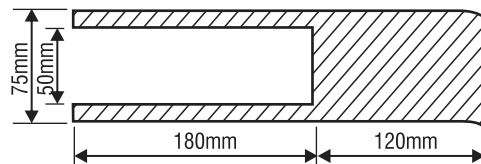

Figure 4.54
5. **Figure 4.54** shows a section of a pneumatic cylinder. Calculate the distance of the centre of gravity from the open side. [171,8mm]